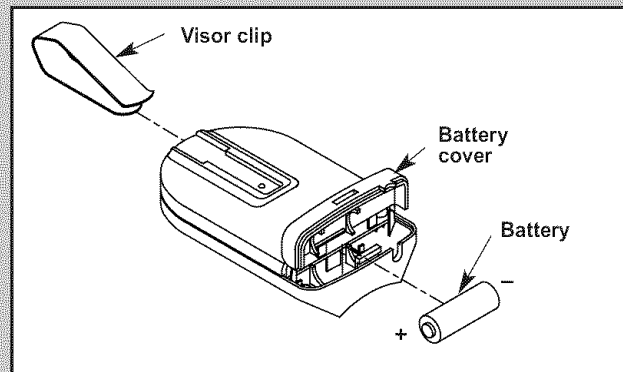

Fig. 10-2
**3. Attach visor clip to remote control (Fig. 10-2)**